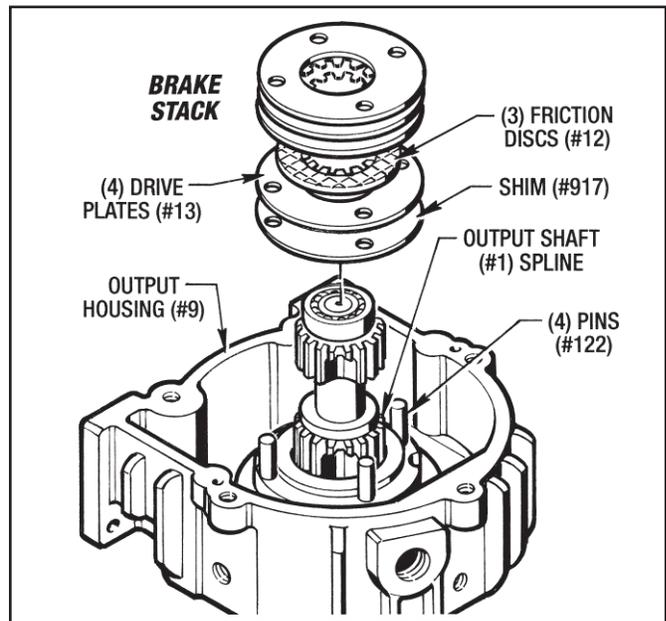

Figure 9.15 - Installing Brake Stack
1. Place the Output Housing (#9) in a vertical position so that the key end of the Output Shaft (#1) is pointed down and the (4) Pins (#122) are pointed up. Make sure the Output Housing is on a flat and stable surface.
2. Install the **Brake Stack** onto the Output Shaft Spline, starting with a Drive Plate (#13) and then a Friction Disc (#12), ending with a Drive Plate (#13). There will be (4) Drive Plates (#13) and (3) Friction Discs (#12). (See Figure 9.15)